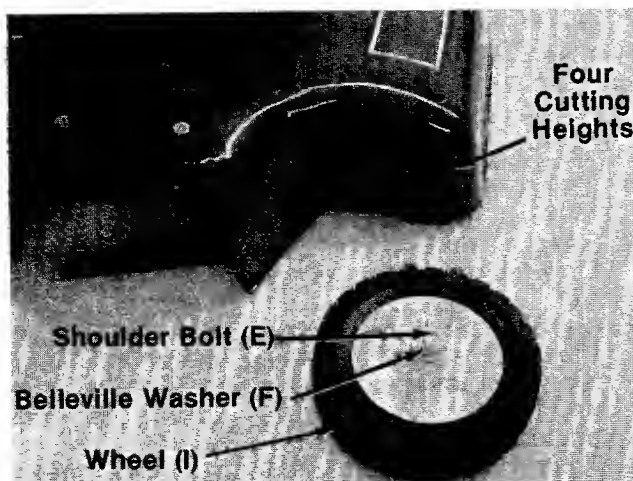

FIGURE 3.
- I (4) Wheels
- J (2) Upper Handles
- K (1) Lower Handle
3. Your mower has four height settings. Use the same hole for all four wheels when assembling. See figure 3.
- A. Place shoulder bolt (E) through wheel (I). See figure 3.
- B. Place crown side of belleville washer (F) towards the wheel (away from deck). See figure 3.
Adjustment is made by removing and moving axle bolts to desired position. Cutting heights will be raised as axle bolts are moved to a lower hole and lowered as axle bolts are moved to a higher hole in the deck. All axle bolts must be mounted in the same relative position to the deck. The cupped side of the belleville washers must be against the deck. See figure 3.